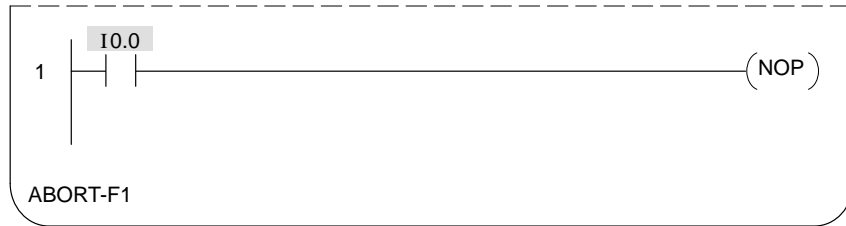

Figure 4-5 Entering Contacts
2. Press `-|` `--F2` or `-|` `/` `--F3` to place the contact on the network. After the contact appears, the cursor moves to the element identifier field, as shown in Figure 4-5. (For a list of valid element types, press `Shift-?`.)